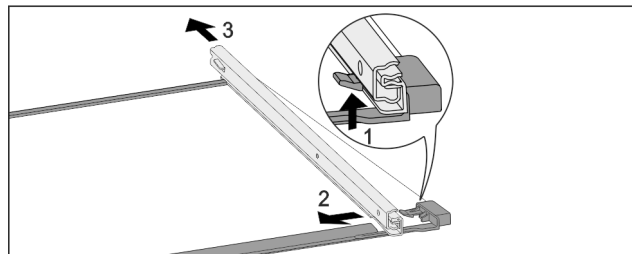

Fig. 143 Glass shelf with rails
- ▶ Push up front click-in hooks. Fig. 143 (1)
- ▶ Move the pull-out rails to the side Fig. 143 (2) and to the rear Fig. 143 (3).